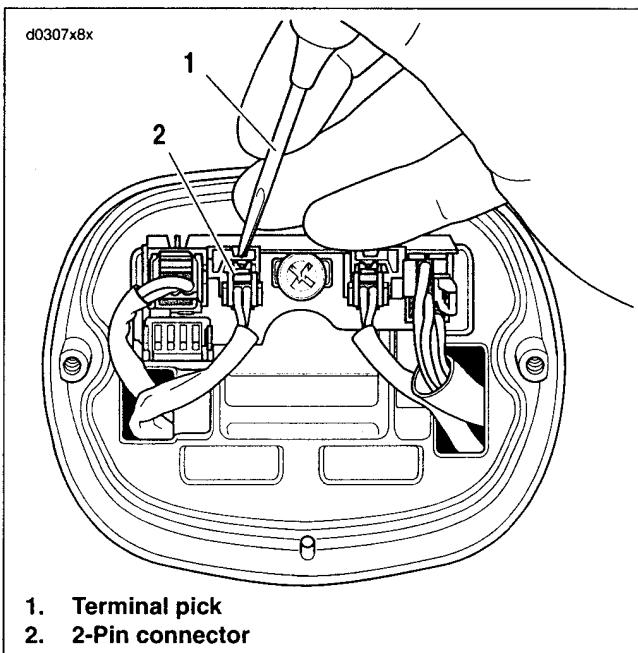

Figure 8-37. Removing 2-Pin Connectors
3. See Figure 8-37. Using a terminal pick or small screwdriver, depress locking tabs and remove two 2-Pin turn signal connectors and 6-Pin Power In connector from circuit board.